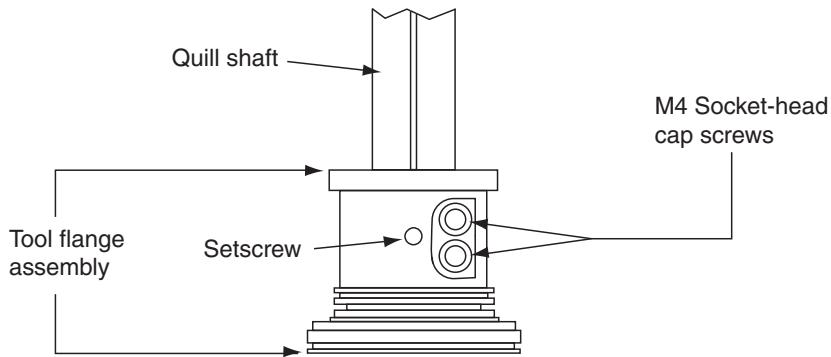

Figure 6-1. Tool Flange Removal Details
3. Use a 2.5 mm hex wrench to loosen the setscrew. See Figure 6-1. Note the vertical-spline groove that is in line with the setscrew. You must reinstall the flange in the same position.